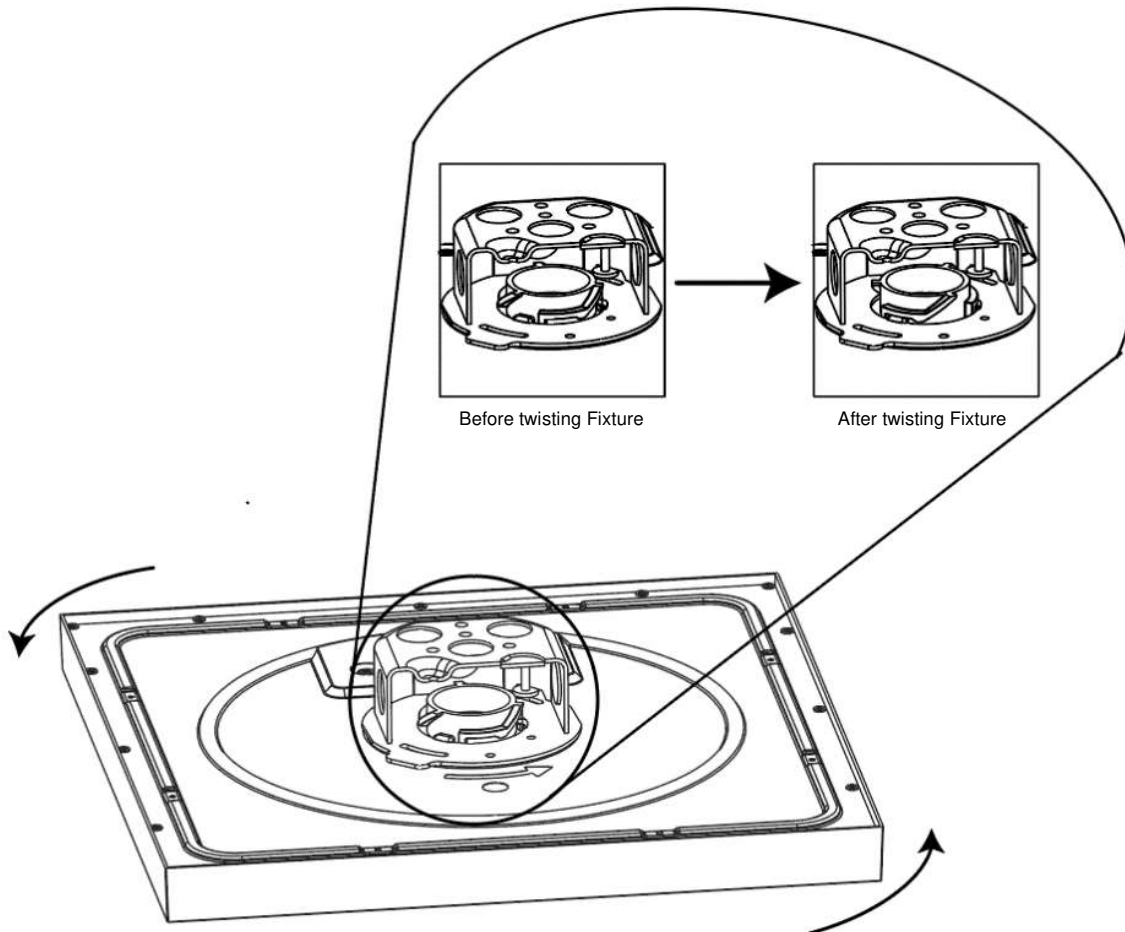

Figure 8
- Secure the Fixture Assembly to the Mounting Bracket by **twisting the fixture CLOCKWISE while gently pushing the fixture upwards into the junction box**, shown in *Figure 8*. The installer should feel a slight “bump” while screwing on the fixture to confirm that the fixture has locked into place. The fixture must be rotated clockwise 90 degrees from Arrow alignment to fully install. If aligning with a Square Slimform, the installer will have a little extra tolerance to adjust the alignment of the fixture after feeling the “bump” secure the fixture in place.